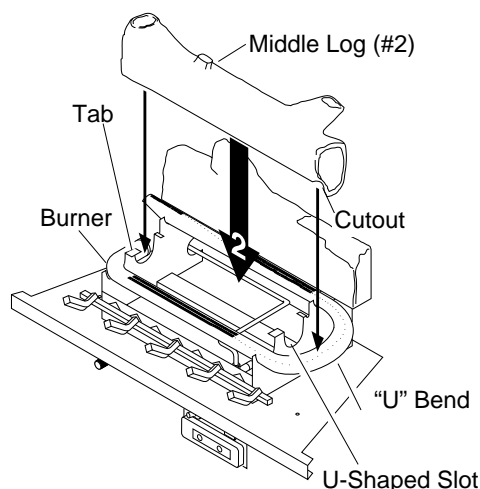

Figure 40 - Installing Middle Log (#2)
2. Place the base of the middle log (#2) in the U-shaped slots of the grate base in front of the back log. The cutout on the right of the middle log should fit over the burner (see Figure 40). Make sure the front of the middle log is resting on the tabs of the grate base and the cutout area is centered over the burner "U" bend.